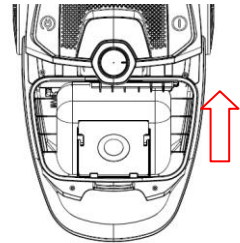

Fig 12
- Take out the bag holder then remove the full dust bag. (Fig 12)